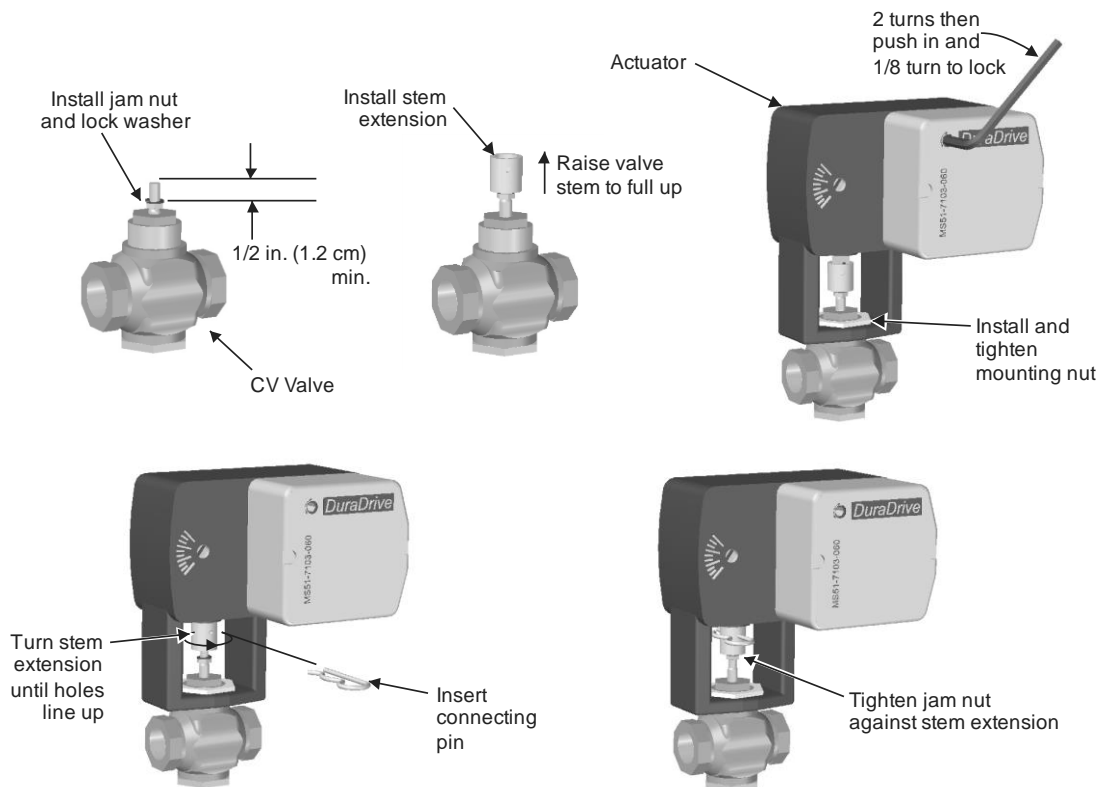

Figure 12: CV Valve Actuator Installation
- Install the CV valve actuator following the procedure in Figure 12: CV Valve Actuator Installation after the CV valve is installed on the steam line. Wire the actuator as described in CV Valve Actuator Wiring on page 27.